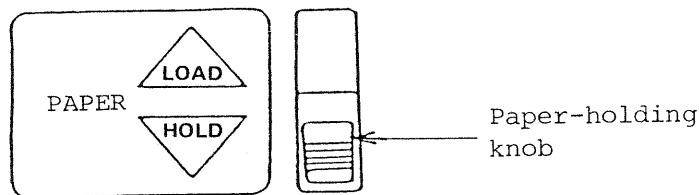

Fig. 4-4 Paper-holding Knob
- (1) Lift the paper-holding knob to load the paper (Fig. 4-4).